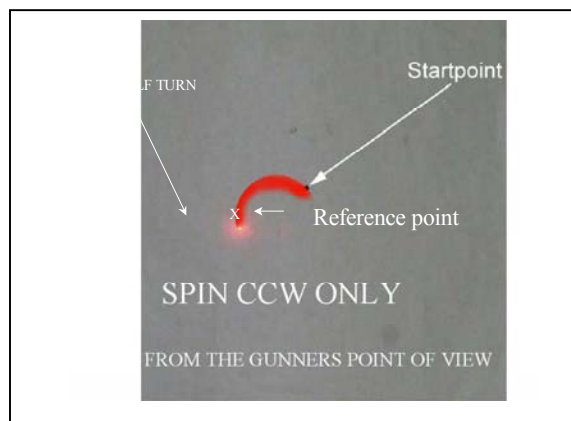

Figure G-4. Example of a start point, half-turn point, and reference point.
(5) *Reference Point*. The reference point is the point that is about half way between the *start point* and the *half-turn point* (Figure G-4).